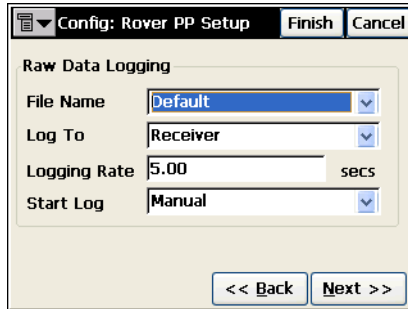
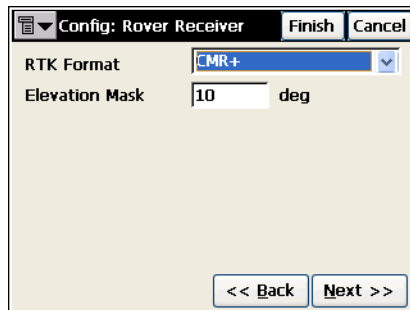

Figure 2-32. Config: Rover PP Setup
Figure 2-33. Config: Rover Receiver
- **Next:** opens the *Config: Rover Receiver* screen (Figure 2-33 on page 2-28). For PP enabled surveys, first the *Config: Rover PP Setup* screen will display (Figure 2-32 on page 2-27).
The *Config: Rover Receiver* screen contains Rover settings (Figure 2-33 on page 2-28):